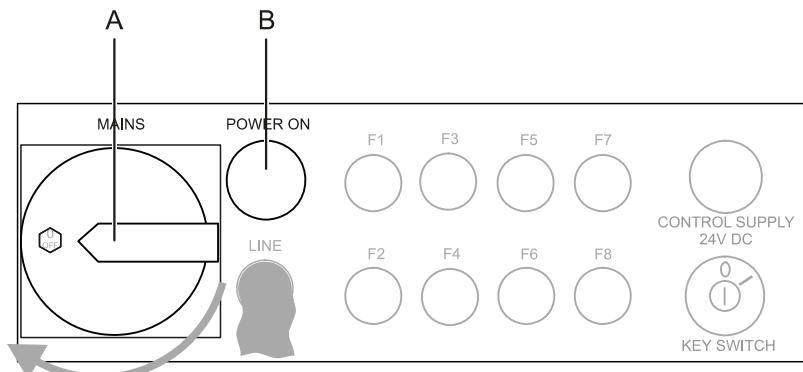

Figure 150: Switching on the laser device
2. Turn the main switch (see Figure 150, A) clockwise to the ON setting. The POWER ON lamp (B) lights and various consumers in the laser device will start.